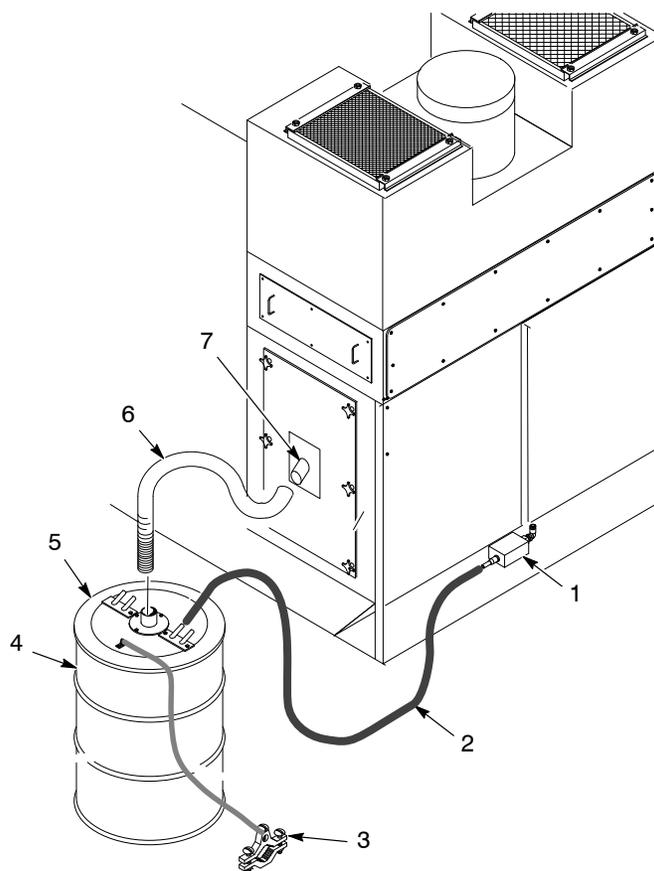

Figure 14 Waste Container Connections
9. See Figure 14. Connect the feed center waste pump hose to the waste container lid. Make sure the waste container vent hose is connected to the vent stub mounted on the side of the feed center.
2. See Figure 14. Install a waste lid on an empty 55 gallon drum.